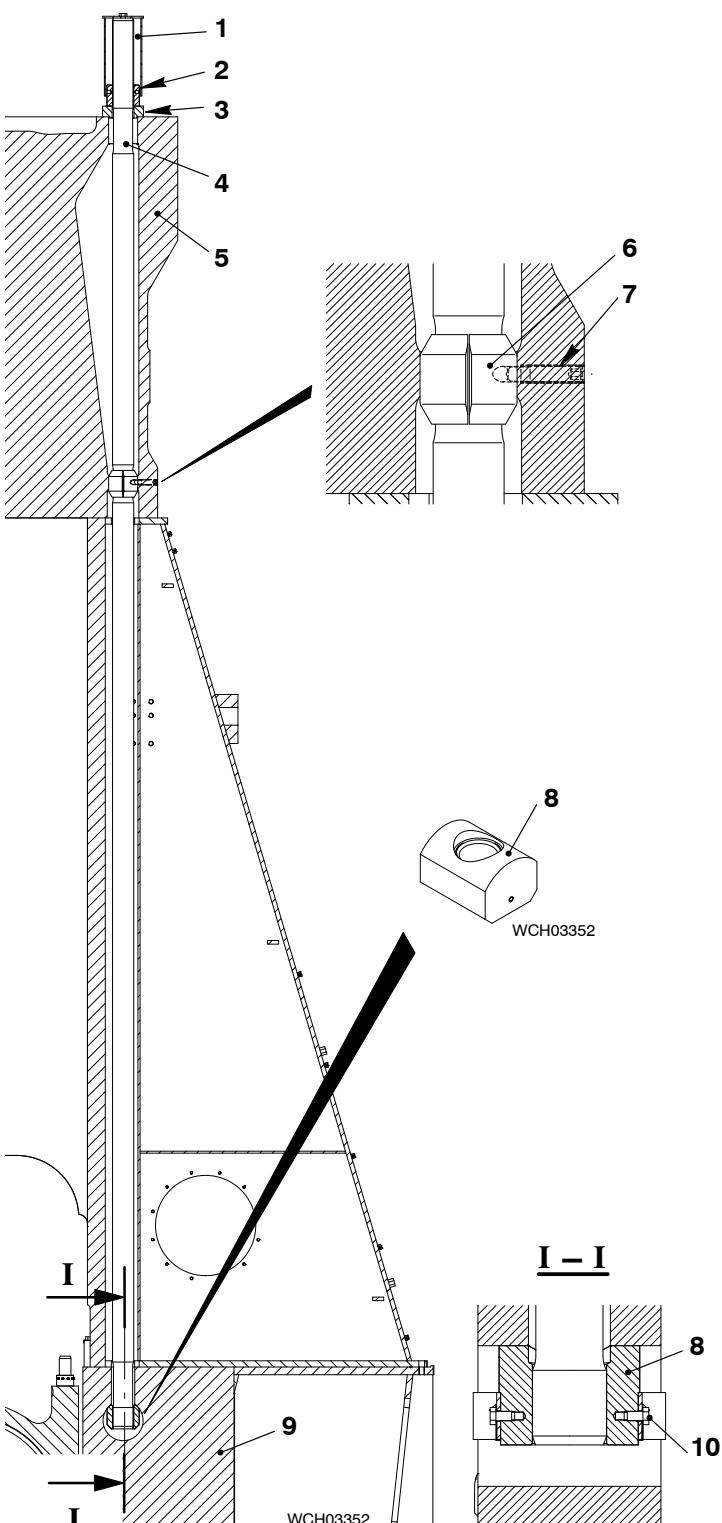

Fig. 2
- 1) Remove the protection cover (1, Fig. 2) from the tie rods (4).
- 2) Clean the surface of the intermediate ring (3).
- 1) Remove the set screws (7, Fig. 2).
- 2) Use two round nuts screwed together to remove the tie rod (4).
- 3) Attach an applicable eye bolt (e.g. M20) to the tie rod (4).